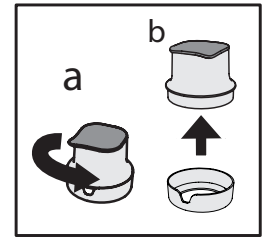

Fig 5
- Remove the funnel from the filter housing rotating it anticlockwise (**Fig 5. a) b**).